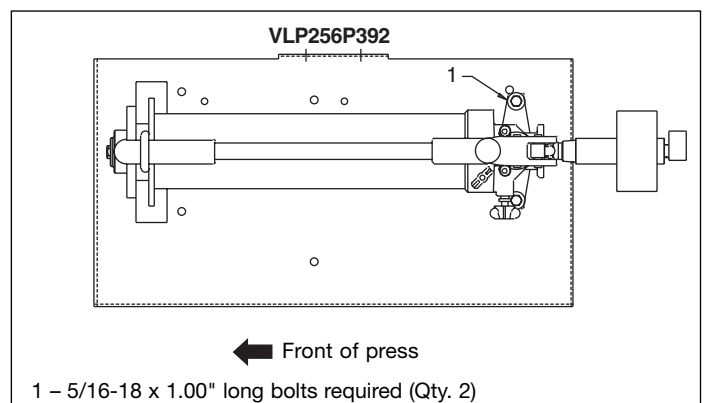

Figure 2, Hand Pump
1. Mount **Hand Pump** to table at two locations using provided hardware. See Figure 2.